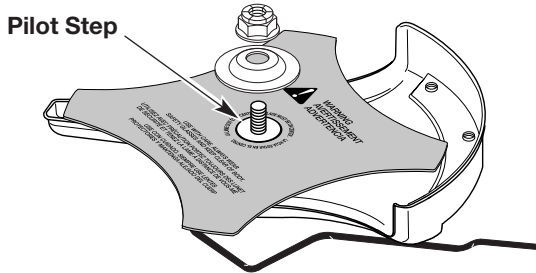

Fig. 11
5. Make sure that the cutting blade is centered on the pilot step and sitting flat against the output shaft bushing (Fig. 11).